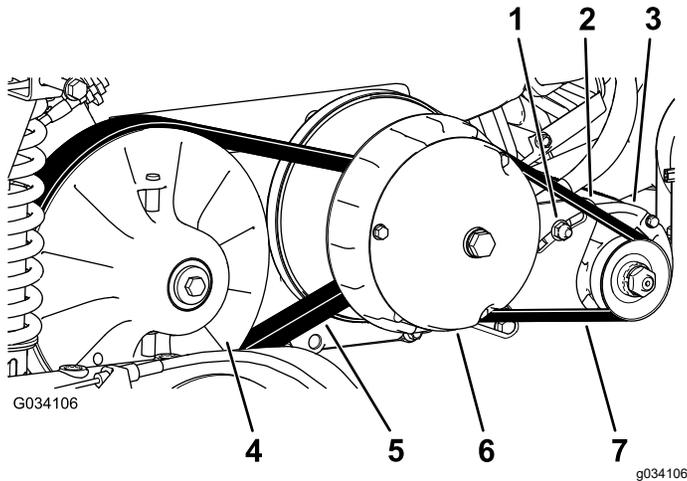

Figure 68
6. Rotate and inspect the belt (Figure 68) for signs of excessive wear or damage.
3. Rotate and route the belt over the secondary clutch (Figure 68).
4. Remove the belt from the primary clutch (Figure 68).
5. Align the new belt over the primary clutch (Figure 68).
6. Rotate and route the belt over the secondary clutch (Figure 68).
2. Loosen the pivot nut for the starter generator (Figure 68).
4. Apply downward pressure to the pry bar to rotate the starter down in the slot until the belt tension only allows 6 mm (1/4 inch) belt deflection with 44 N·m (10 ft-lb) of force (Figure 68).
5. Tighten the pivot nut hand tight, and remove the pry bar (Figure 68).